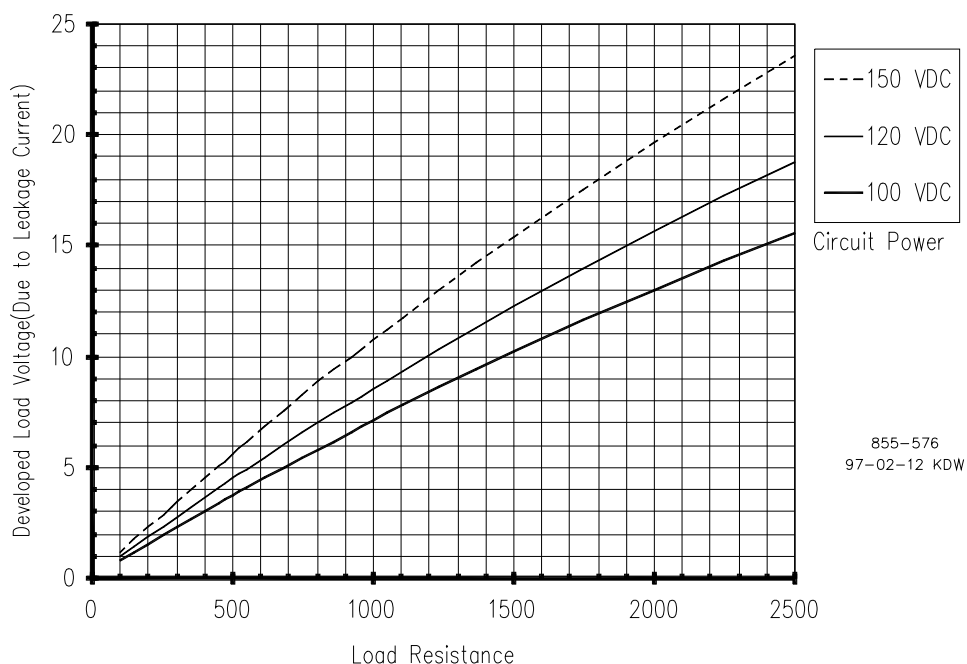

Figure 11-11. Latent Fault Detection Verification Graph—100–150 VDC Circuitry
1. Verify that circuit the relay output is used with has a voltage level of 18–32 VDC, 100–150 VDC, or 88–132 VAC. If circuit voltage is not within these ranges, disable the relay output's latent fault detection by placing the relay jumpers in their disable state. See Figure 11-11.
One jumper-bank (a set of nine jumpers) is used to match the latent fault detection (LFD) circuit with the circuit voltage being interfaced. The second jumper bank (a set of four jumpers) is used to select which set of relay contacts (N.O. or N.C.) is tested by the LFD logic. During operation, only one set of relay contacts (normally open or normally closed) can be tested. The set of relay contacts tested should be same set of relay contacts used by the circuit interfaced to. Refer to Figure 11-11. LFD can be jumper configured to be compatible with the following circuit voltages: